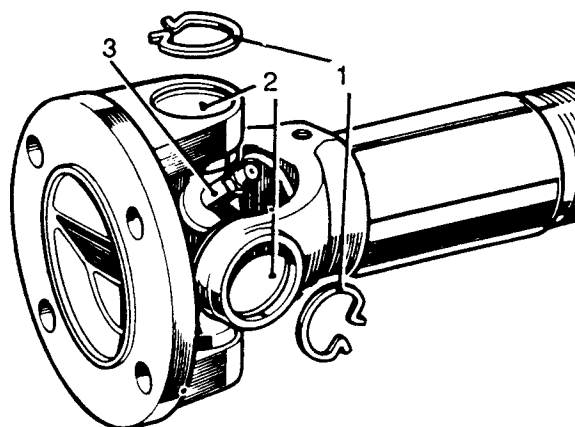

Fig H4.8
- (11) Refer to Fig H4.8. Clean any dirt and enamel from the circlips (1) and the tops of the bearing races (2).
- (12) Remove the circlips.
- (13) Remove the grease nipple (3) from the universal joint.